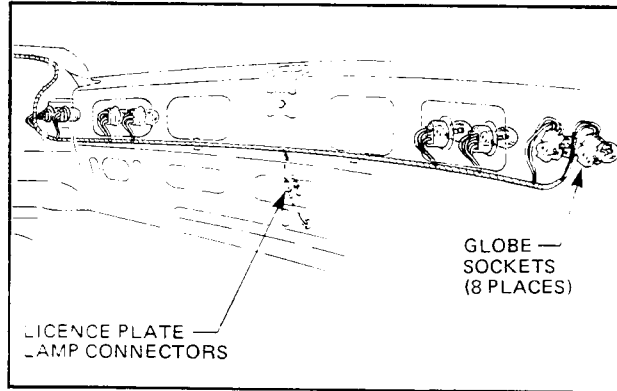

Figure 12B-8
5. Remove screw holding lamp socket to bumper bar, refer Fig. 12B-9 and remove socket.